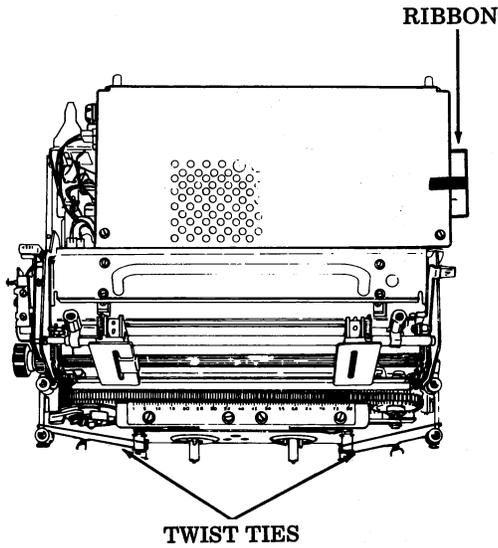

Fig. 14—Twist Ties and Ribbon
3.17 Remove twist ties and ribbon from printer (Fig. 14).